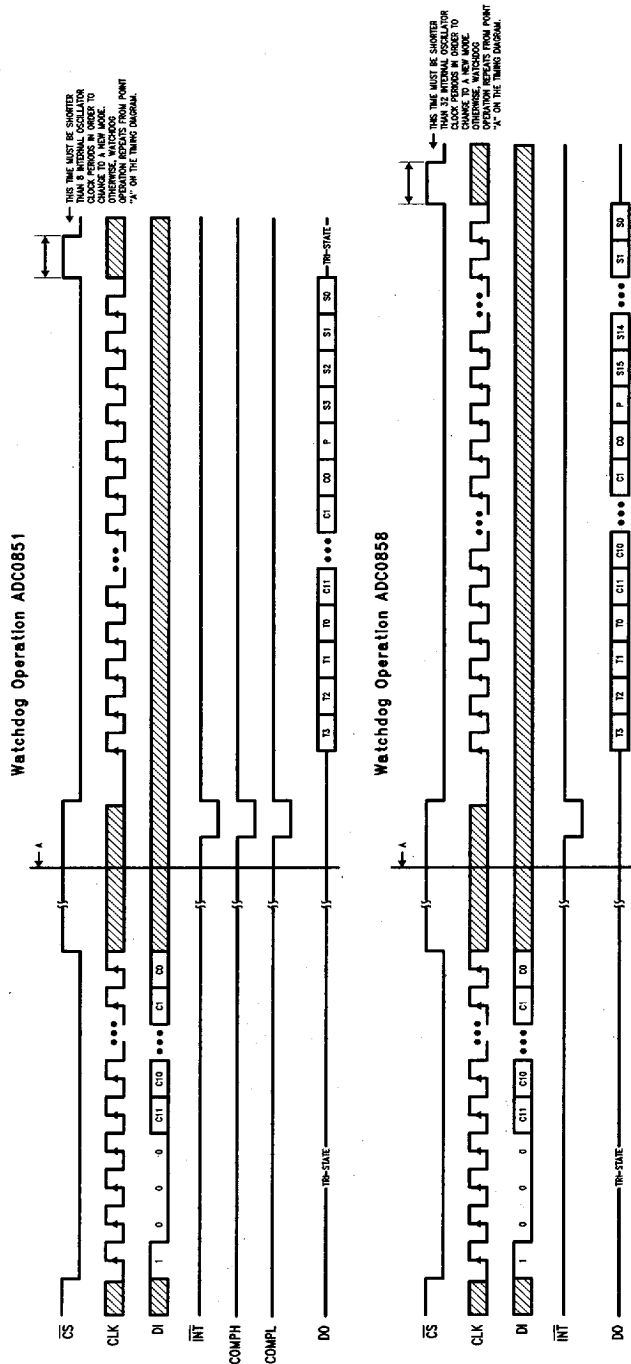

FIGURE 7. Timing Diagrams for Watchdog Operation
The timing diagrams for ADC0851 and ADC0858 watchdog operation are shown in Figure 7. After a \overline{CS} low is detected, the input word (DI) is clocked in starting at the first rising edge of the serial clock (CLK). Once the least significant bit of the channel address is loaded, \overline{CS} should go high. Taking \overline{CS} high after the proper input word is loaded initiates the operation of the device in the watchdog mode. To keep the device in continuous watchdog mode, \overline{CS} should remain high for eight or more OSC clock periods for the ADC0851 and thirty-three or more OSC clock periods for the ADC0858. If the input signals are within the boundary limits, the interrupt pin (INT) remains at logic "1" and the Data Output (DO) pin is in TRI-STATE. In addition, in the case of the ADC0851, the COMPL and COMPH pins remain at logic "1".
To output data after a limit crossing occurs (i.e., after \overline{INT} goes low), \overline{CS} should be brought low. Note that \overline{INT} , \overline{COMPL} and \overline{COMPH} would remain low as long as \overline{CS} doesn't go low. After \overline{CS} goes low \overline{INT} , \overline{COMPL} and \overline{COMPH} go high and one clock cycle later output data is transmitted starting at the first rising edge of CLK , however, the data is valid at the falling edge of CLK (Figure 7).